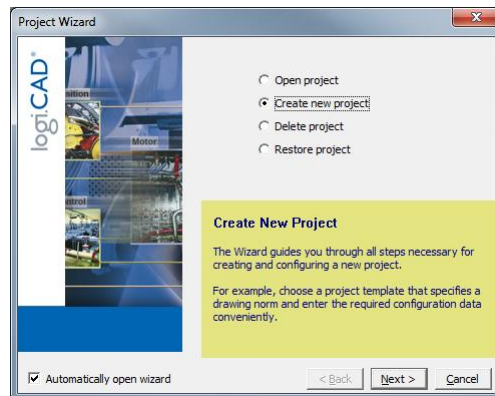

Figure 58: logiCAD project wizard
2. The project wizard starts automatically as shown in Figure 58.